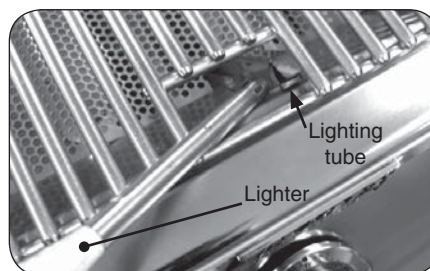

Fig. 15-2 - Manual lighting
2. Insert either a burning long-barrel butane lighter or a burning long-stem match through the cooking grid opening to the top of the lighting tube. (Fig. 15-2).
4. If the burner does not light, **immediately depress the knob and turn the valve to OFF**. **WAIT FIVE (5) MINUTES** before repeating steps 2 through 4 of the MANUAL LIGHTING instructions.